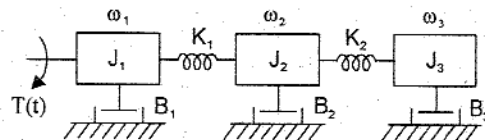

Fig E1.5
- E1.5 Write the differential equations governing the rotational mechanical system shown in fig E1.5. Also draw the torque-voltage and torque-current analogous circuits.